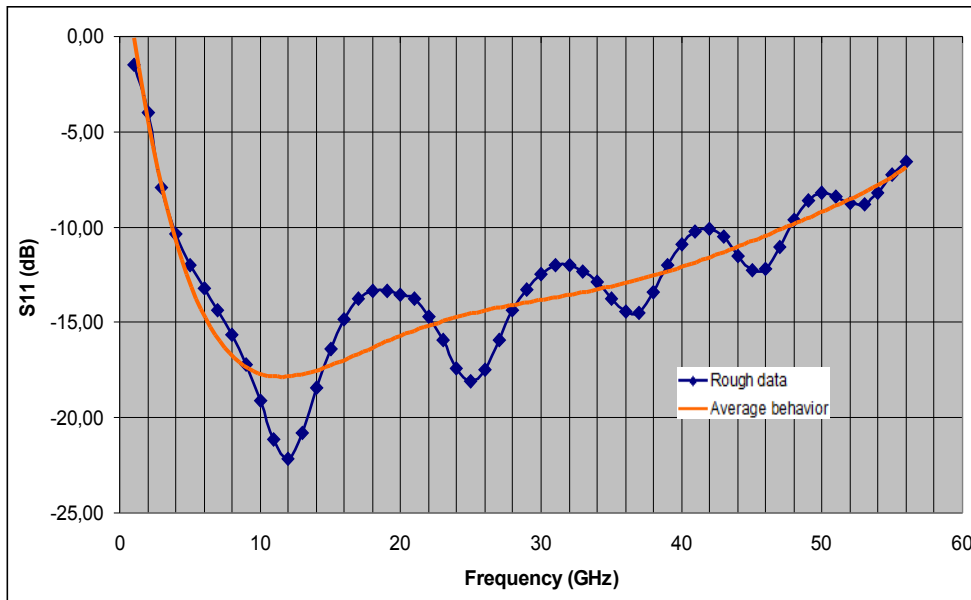

Figure 1 : S11 vs Frequency
- 2-Low frequency gain ripple assumes the use of drain decoupling close to the chip, as proposed on the figure 1 and 2.